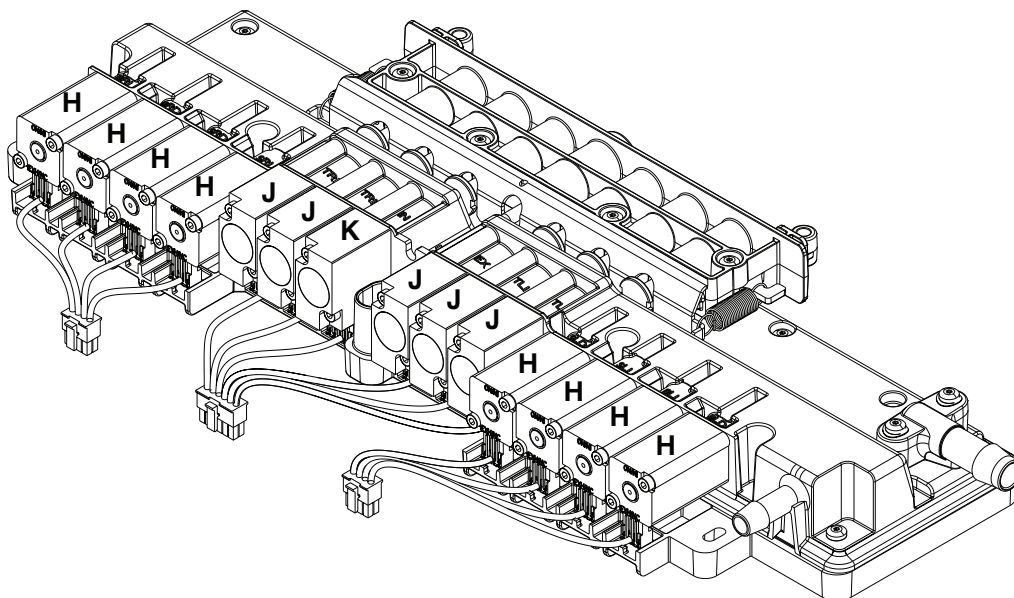

Figure 12 – Solenoid valve
3. Using the supplied torque driver, remove the two screws that secure the solenoid valve (H, J, or K) to the manifold assembly (Figure 12). Save the screws.